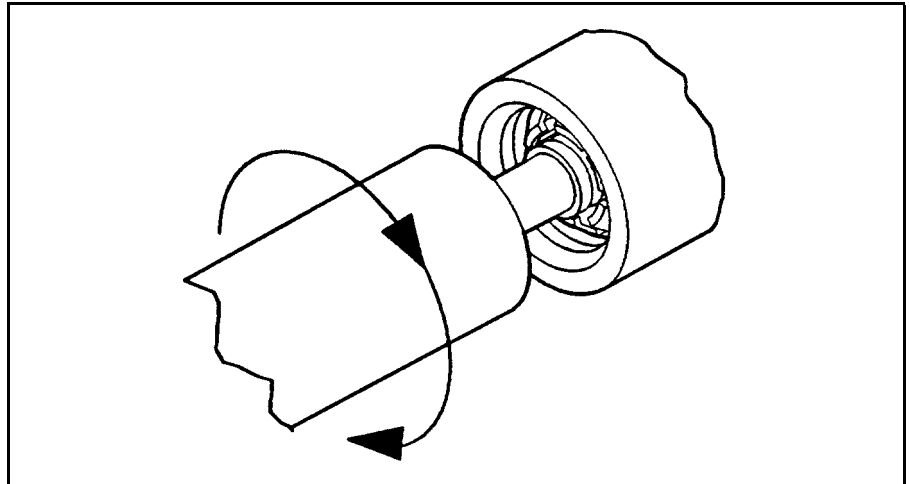

Figure 2-10. Threading the Removal Tool Into the Inner Contact
- b. Turn the tool clockwise to engage the tool coupling thread with the thread on the inside of the contact (see Figure 2-10).